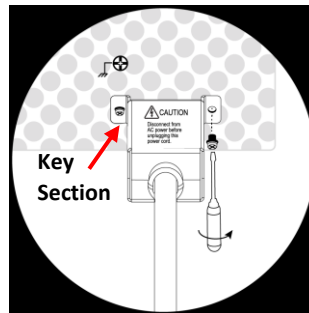

Figure 10 - Securing the power cable
4. Using the (2) screws provided with the cable, secure the assembled connector to the back of the instrument as shown in Figure 10 – Securing. Note: Use only the screws provided.